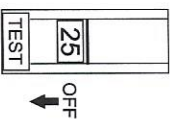

Figure 14. AC Circuit Breaker (OFF)
2. **NEVER** start the engine with the AC circuit breaker in the **ON** position. Always place AC circuit breaker (Figure 14) in the **OFF** position before starting.